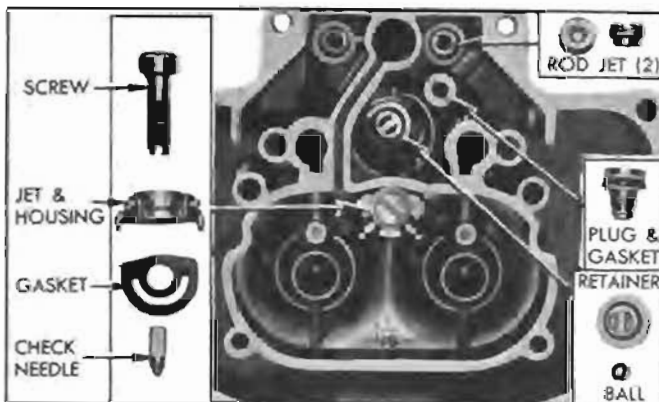

Figure 3-35—Parts in Main Body
12. Remove vacuum piston spring, pump plunger assembly and lower pump spring from cylinders in main body. See figure 3-35.
13. Remove screw, jet and housing assembly, gasket, and pump check needle from main body. See figure 3-35.
14. Remove both metering rod jets, and the pump relief plug and gasket from bottom of bowl in main body. See figure 3-35.
15. Use a thin screw driver or a stiff wire having a short hook on one end to remove the pump intake check ball retainer. See figure 3-35.
10. Install pump relief plug and gasket in bowl of main body and install both metering rod jets. Jets must be tightened firmly but not so tightly as to cause distortion. See figure 3-35.
11. Place pump check needle, *tapered end downward*, in passage in main body, then install gasket, pump jet and housing assembly, and attaching screw. See figure 3-35.